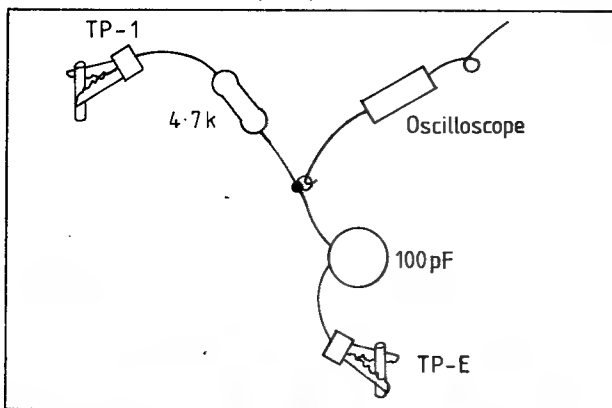

Fig 7.26
- (1) Connect the CR jumper between terminals TP-1 and TP-4 on the Video Process PCB (CA 1501A), then connect the oscilloscope probe to a neutral point of the jumper as shown in Figure 7.26